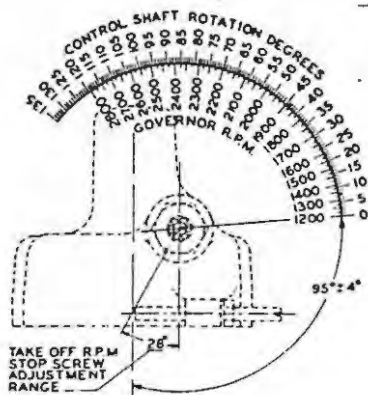

Figure 5-70. Pulley Travel Chart
c. If the governor speed range has previously been set on a test rig, the pulley should be in its corrected numbered position with respect to the index line on the end of the control shaft. The correct relationship allows the governor to operate through a satisfactory speed range; namely, from the low rpm setting established by the low rpm adjusting screw in the rack assembly to the high rpm setting established by contact of the pulley stop pin with the high rpm adjusting screw on the governor head. If the pulley stop pin is moved to an adjacent hole in the pulley, the high rpm setting of the control will be changed approximately 250 rpm. Turning the external high rpm adjusting screw one complete turn changes the high rpm setting approximately 25 rpm. The relationship between the governor pulley travel in degrees and the governor speed setting is shown in figure 5-70.